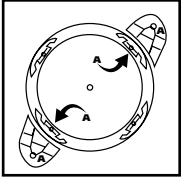

FIGURE 3
3. With tank inlet facing you, take caster feet marked with the letter **A**, **FIGURE 3**, and place in the slots on left front and right rear of tank also marked with the letter **A**.